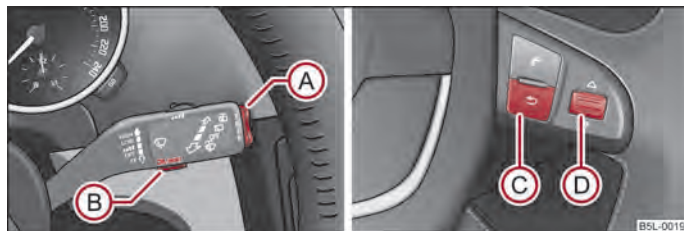

Fig. 6 Multi-functional indicator: Controls on the windshield wiper lever/controls on the multifunction steering wheel
Switching over the memory with the help of the button **(B)** ⇒ fig. 6 on the windshield wiper lever or with the help of the button **(D)** on the multifunction steering wheel ⇒ page 15.
The rocker switch **(A)** ⇒ fig. 6 and the button **(B)** are located on the windshield wiper lever. Switching over and resetting is performed with the handwheel **(D)** on the multifunction steering wheel.
If the outside temperature drops below +4 °C, a snow flake symbol (warning signal for ice on the road) appears before the temperature indicator and a warning signal sounds. After pressing the rocker switch (A) at the windshield wiper lever ⇒ fig. 6 or the button (C) at the multifunction steering wheel ⇒ fig. 6, the function shown last is indicated.
The driving time which has elapsed since the memory was last erased, appears in the display. If you wish to measure the driving time as of a particular time, you must set the memory to zero at this moment in time by pressing the button (B) on the windshield wiper lever ⇒ fig. 6 or the handwheel (D) on the multifunction steering wheel ⇒ fig. 6 for longer than 1 second.
If you wish to determine the average fuel consumption over a certain period of time you must set the memory to zero at the start of the measurement using the button (B) on the windshield wiper lever ⇒ fig. 6 or with the handwheel (D) on the multifunction steering wheel ⇒ fig. 6. A zero appears in the display for the first 100 m you drive after erasing the memory.
The distance driven since the memory was last erased appears in the display ⇒ page 14. If you wish to measure the distance driven of a particular time, you must set the memory to zero at this moment in time by pressing the button (B) on the windshield wiper lever ⇒ fig. 6 or the handwheel (D) on the multifunction steering wheel ⇒ fig. 6.
The average speed since the memory was last erased is shown in the display in km/hour → page 14. If you wish to determine the average vehicle speed over a certain period of time you must set the memory to zero at the start of the measurement using the button (B) on the windshield wiper lever → fig. 6 or with the handwheel (D) on the multifunction steering wheel → fig. 6.
- With the (A) button on the multi-function steering wheel → fig. 6 or the handwheel (D) on the multi-function steering wheel → fig. 6, choose the menu point **Warning against excessive speeds**.
- Choose the (B) button on the multi-function steering wheel, or the handwheel (D) on the multi-function steering wheel, to activate the option for setting the speed limit (the value flashes).
- Use the (A) button on the windshield wiper lever or the handwheel (D) on the multi-function steering wheel to set the required speed limit., e.g. 50 km/h.
- Use the (B) button on the windshield wiper lever or the handwheel (D) on the multi-function steering wheel to confirm the required speed limit, or wait around 5 seconds. The setting saves automatically (the value stops flashing).